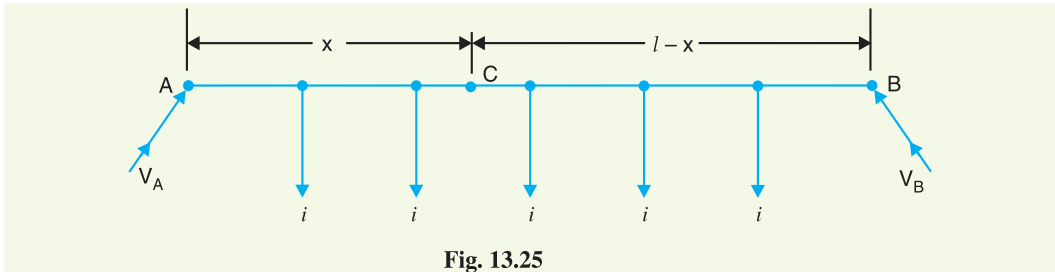

Fig. 13.25
- (ii) **Distributor fed at both ends with unequal voltages.** Consider a distributor  $AB$  of length  $l$  metres having resistance  $r$  ohms per metre run and with a uniform loading of  $i$  amperes per metre run as shown in Fig. 13.25. Let the distributor be fed from feeding points  $A$  and  $B$  at voltages  $V_A$  and  $V_B$  respectively.